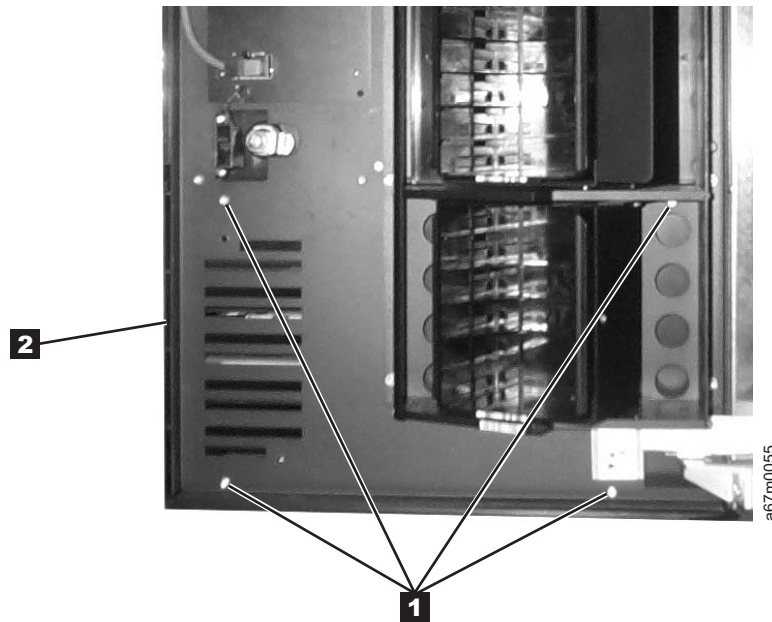

Figure 8-49. Plastic Lower Front Door Panel Removal and Replacement
See Figure 8-49 for locations of components in the following procedure.
4. The Plastic Lower Front Door Panel is attached to the door frame with four screws **1**. Remove these screws shown in Figure 8-49.